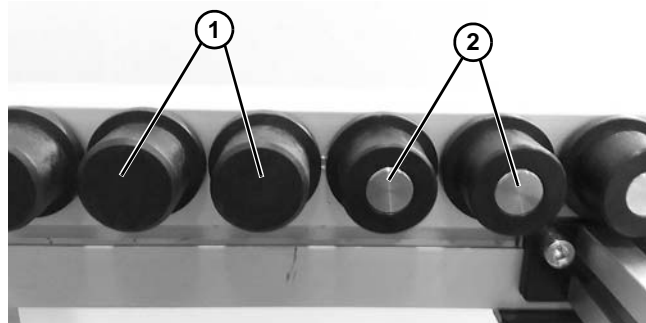

Figure 20
There are two different style rollers available: Driven rollers (Figure 20, item 1) and slip rollers (Figure 20, item 2). For slip rollers, skip to step 10.